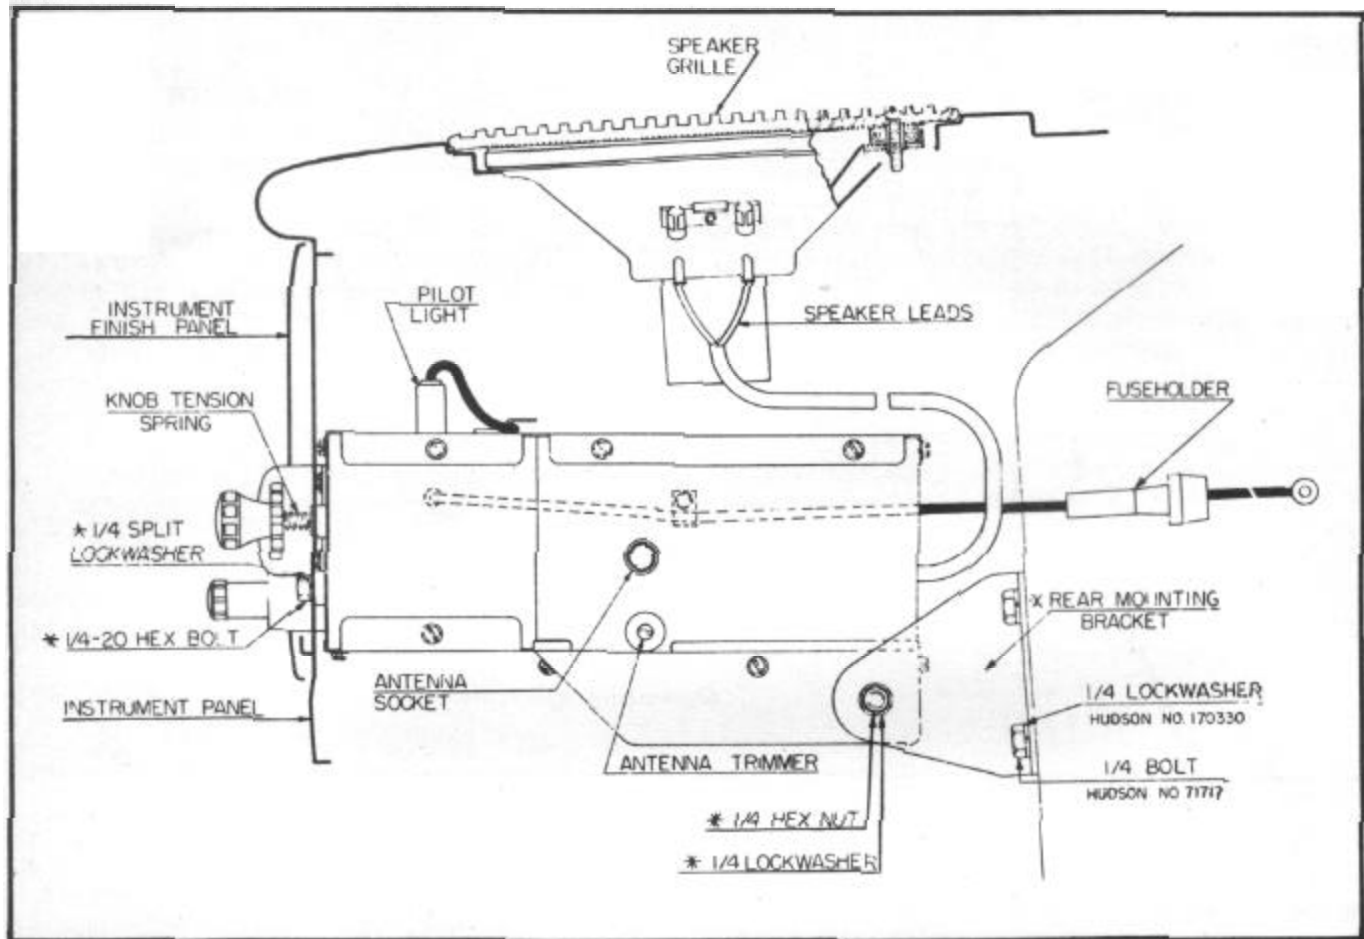

FIGURE 36
11. Plug in antenna cable (Figure 36).
18. **IMPORTANT:** Turn the receiver on and allow it to operate for approximately fifteen minutes in order for it to reach normal operating temperature. Tune in a weak station near 1200 KC. With a small screwdriver adjust the antenna trimmer, located on the right side of the receiver, for maximum volume (Figure 36).